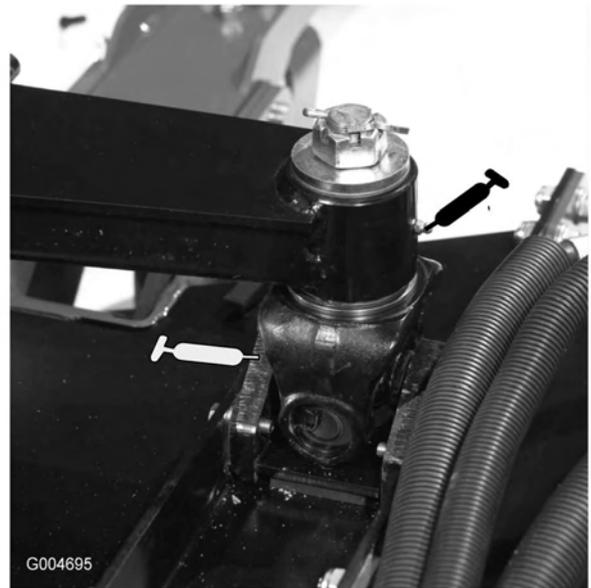

Figure 43
- Main lift arm bushings (6) (Figure 42 and Figure 43),